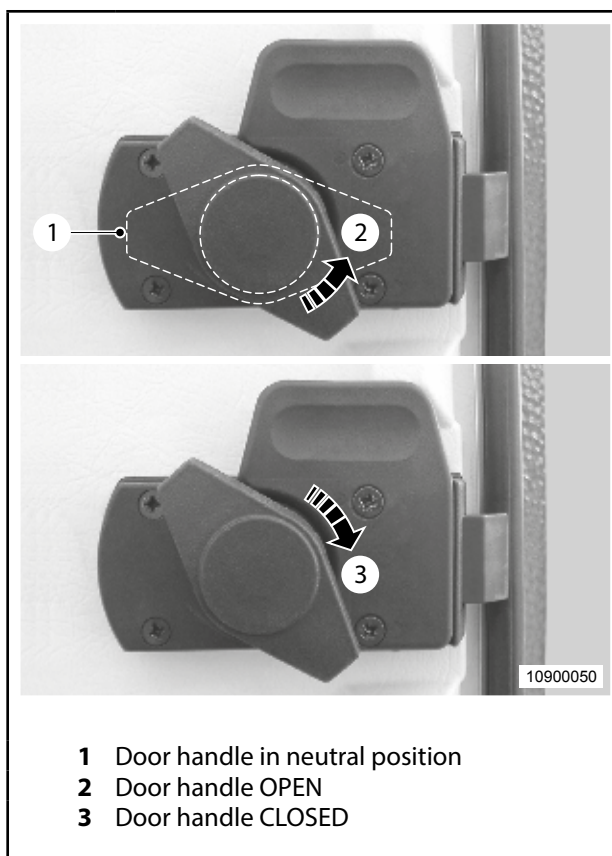

Fig. 11 Opening/closing the door from the inside
1. Turn the door handle anticlockwise (Fig. 11, item 2) to position » OPEN « and open the door. The door handle snaps back into neutral position.
1. Turn the door handle clockwise by approx. 60° (Fig. 11, item 3) to position » OPEN «.
2. Turn the door handle back into neutral position to unlock it (Fig. 11, item 1).